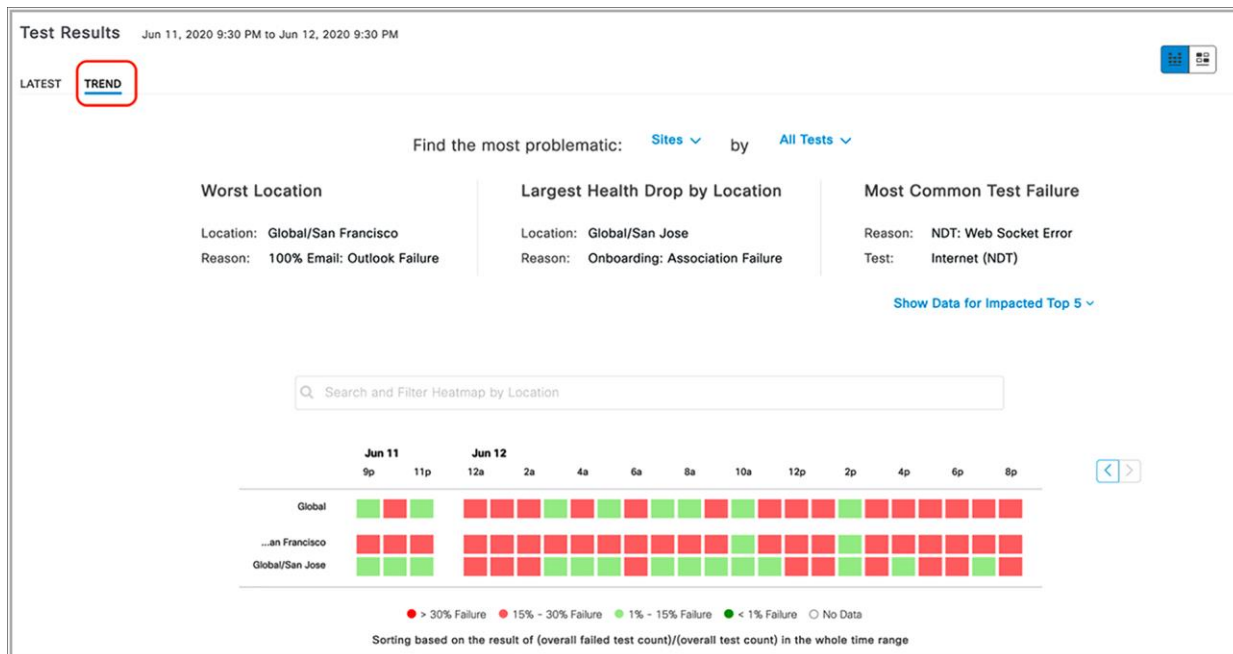

Figure 98.
16. Click the X in the upper right corner of the drill-down view to return to the Wireless Sensors dashboard, then click the Trend button under Test Results to view the 24-hour trend of the heatmap (Figure 98).